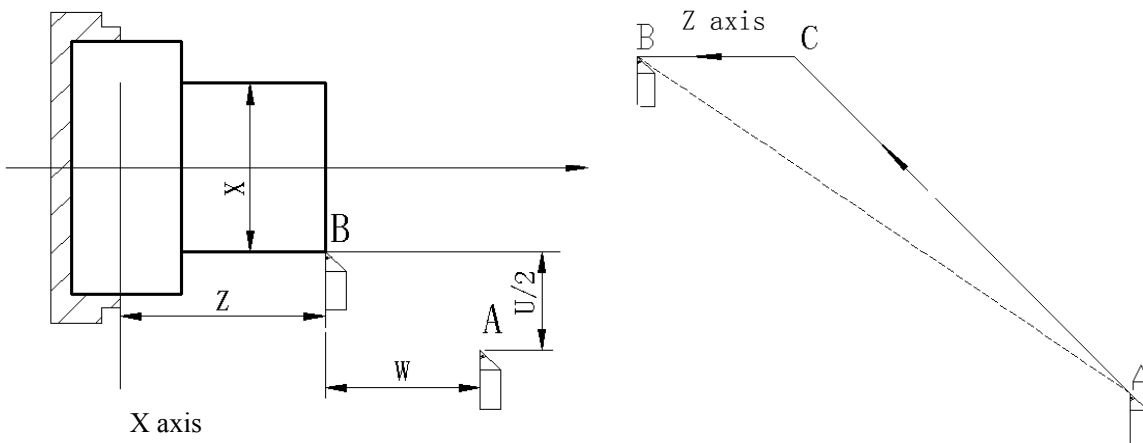

Fig. 3-1
**Instruction function:** X, Z axis rapidly traverses at the respective traverse speed to the end points from their starting point. G00 is initial instruction as Fig.3-1.